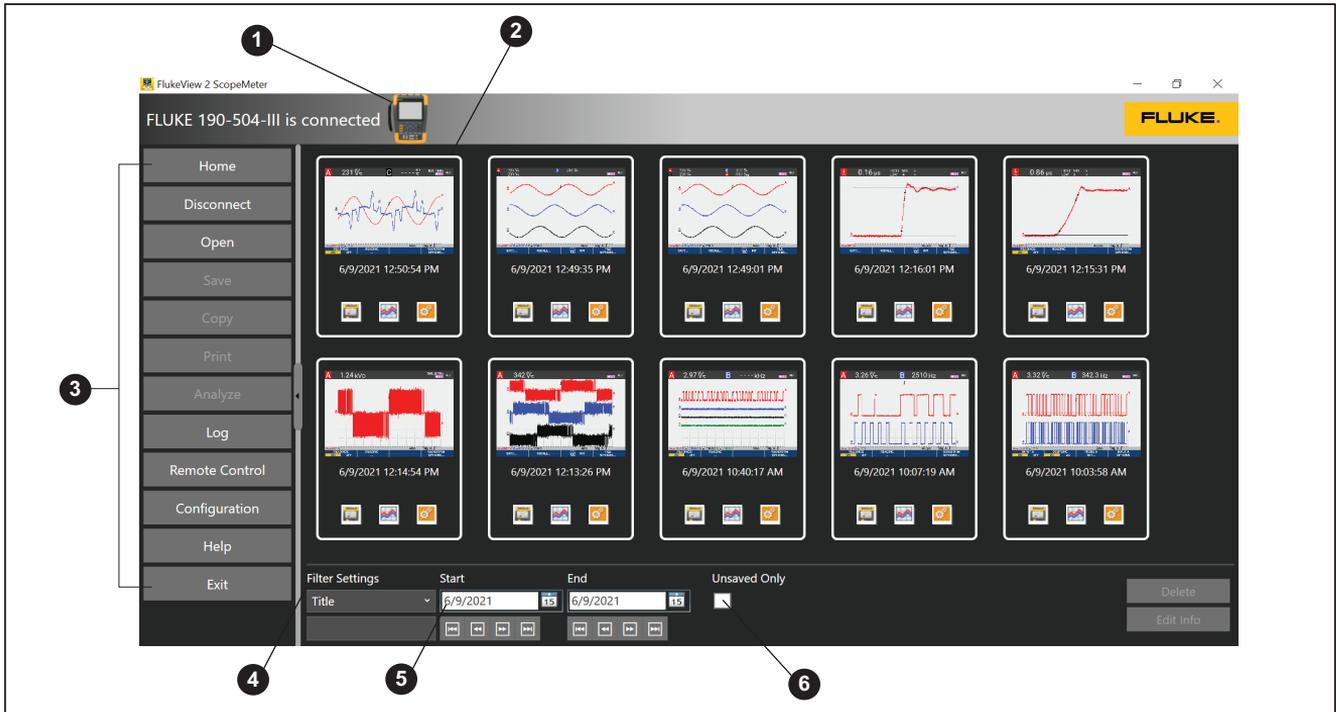

Figure 3. FlukeView 2 Main Window
At startup, FlukeView 2 automatically tries to make a connection with the Test Tool. An icon for the instrument shows at the top of the window if the connection is successful and the Test Tool is connected. See Figure 3, item A.
The main window is an overview of all the Measurement Groups since the start of the program and all items that have been stored to the database. See Figure 3.
The most recent Measurement Group shows on the top left portion of the window. See Figure 3, item ②.
Use the menu buttons on the left toolbar to access the software functions. See Figure 3, item ③.
On the bottom of the screen you can select a filter to limit the amount of Measurement Groups that are visible in the main window. See Figure 3, item 4.
Use **Start** and **End** to select the date range of the items that show in the main window. See Figure 3, item 5.
Check the **Unsaved Only** option to show only the items that are not yet saved to the database. See Figure 3, item 6.
The drop-down list on the left of the Filter settings allows you to filter on Measurement groups with “Additional Info.” See Figure 3, item 4.